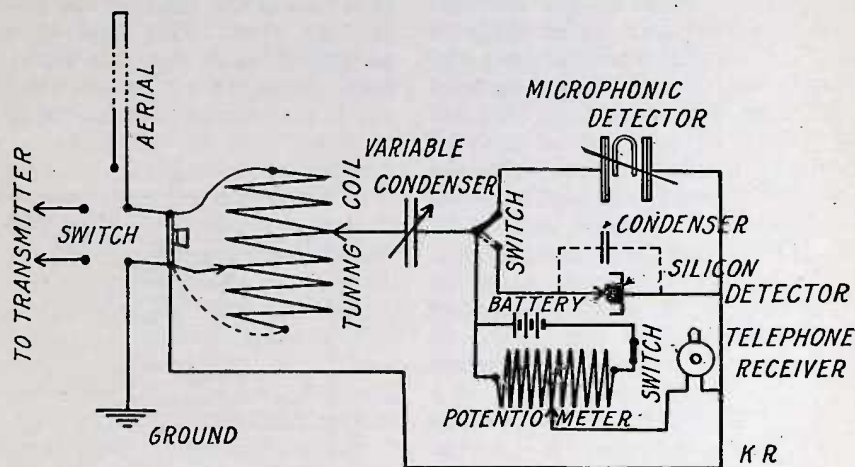

FIG. 9 — CONNECTIONS OF THE RECEPTOR
k.—A double-pole, double-throw knife switch is used, as shown in Figs. 4 and 9, to switch in either the transmitter or the receptor. It should be a large one, so that there will be no leaking between the contacts. The receptor is connected as shown in Fig. 9.